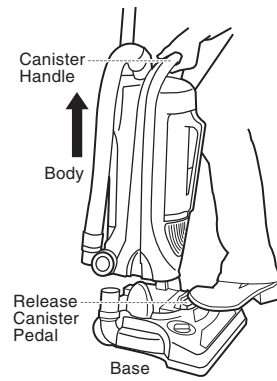

Fig. 12
- Step on release canister pedal and pull body upward by canister handle. (Fig. 12)